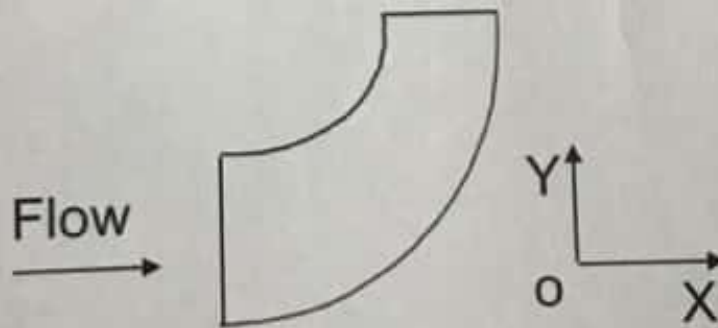

Fig Q9
9. A reducing bend is fitted in a horizontal section of a fresh water system as shown in Fig Q9. It turns the flow through an angle of  $90^\circ$  anticlockwise to the direction of flow.